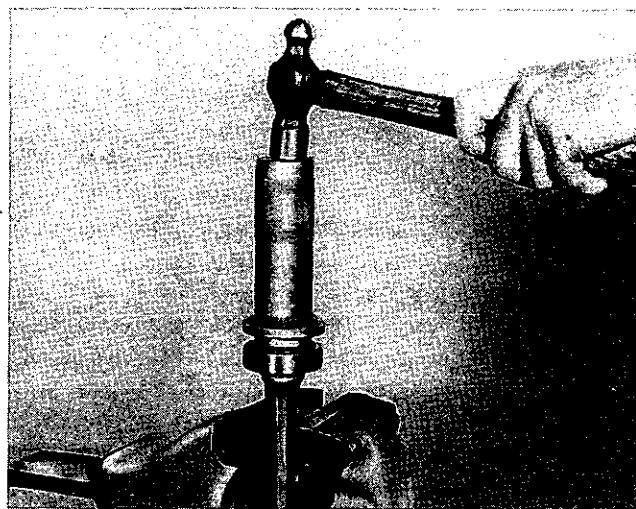

Fig. 6. Fitting Wheel Bearing with Tool No. M.92.
10. Reassembly of these parts is approximately the reverse of the procedure given above with the necessity to drive or press the bearings on to the shafts. In the absence of a press, the special sleeved tool may be used with a hammer to drive on the bearings as shown in Fig. 6.